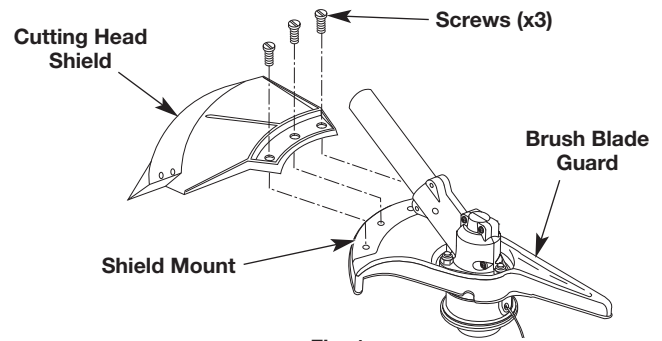

Fig. 1
1. Place the cutting head shield over the shield mount surface on the brush blade guard (Fig. 1).
2. Insert the screws (x3) through the screw holes on the cutting head shield (Fig. 1).
1. Unscrew the screws (x3) on the cutting head shield with a Phillips screwdriver (Fig. 1).